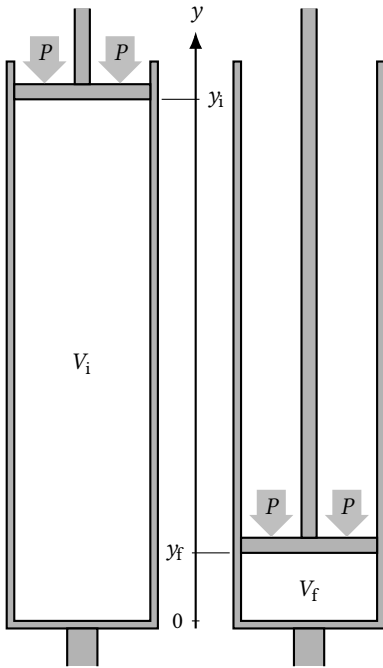

FIGURE 1.2 The downward power stroke of Newcomen's atmospheric engine is driven by atmospheric pressure pushing down on the piston.
**EXAMPLE 1.2** The replica of Newcomen's engine in example 1.1 has a piston that travels approximately 1.8 m inside the cylinder, shown in figure 1.2. Like Newcomen's original, it operates at a rate of one cycle every five seconds. Find the work done by the atmosphere on the engine and the average power.
The force and displacement are in the same direction, so the work is positive. In figure 1.2 they are both pointed in the negative direction, so we also could have written both as negative. The answer would be the same.
While we used the piston's area and displacement to calculate the work, all that is actually needed is the pressure and the cylinder's change in volume. The volume of the cylinder in figure 1.2 is  $V = Ay$ , where  $A$  is the piston's area and  $y$  is its height. Taking care with signs, we should write the downward force as  $F = -PA$ , since pressure and area are positive, but the force is in the negative direction.
The replica of Newcomen's engine in example 1.1 has a piston that travels approximately 1.8 m inside the cylinder, shown in figure 1.2. Like Newcomen's original, it operates at a rate of one cycle every five seconds. Find the work done by the atmosphere on the engine and the average power.
*The force and displacement are in the same direction, so the work is positive. In figure 1.2 they are both pointed in the negative direction, so we also could have written both as negative. The answer would be the same.*